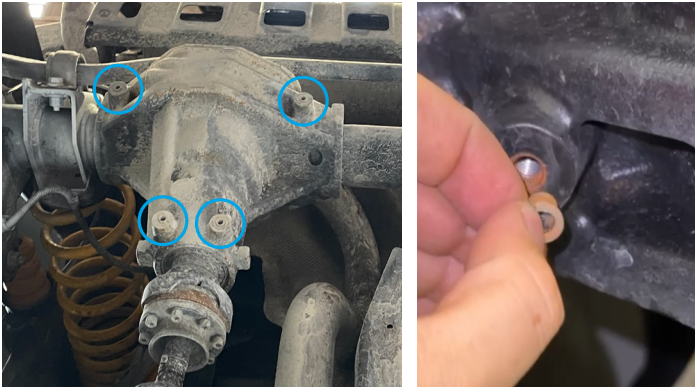

Fig. 1
1. Remove the factory rubber plugs from the threaded holes (fig.1).